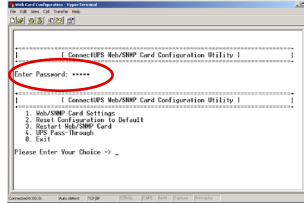

Figure 8. Enter Configuration Password
8. After a few seconds, press **Enter**. The Password prompt appears (see Figure 8).
9. Type your *password* (the default is *admin*) and press **Enter**. The Main Menu screen appears. See Figure 8.